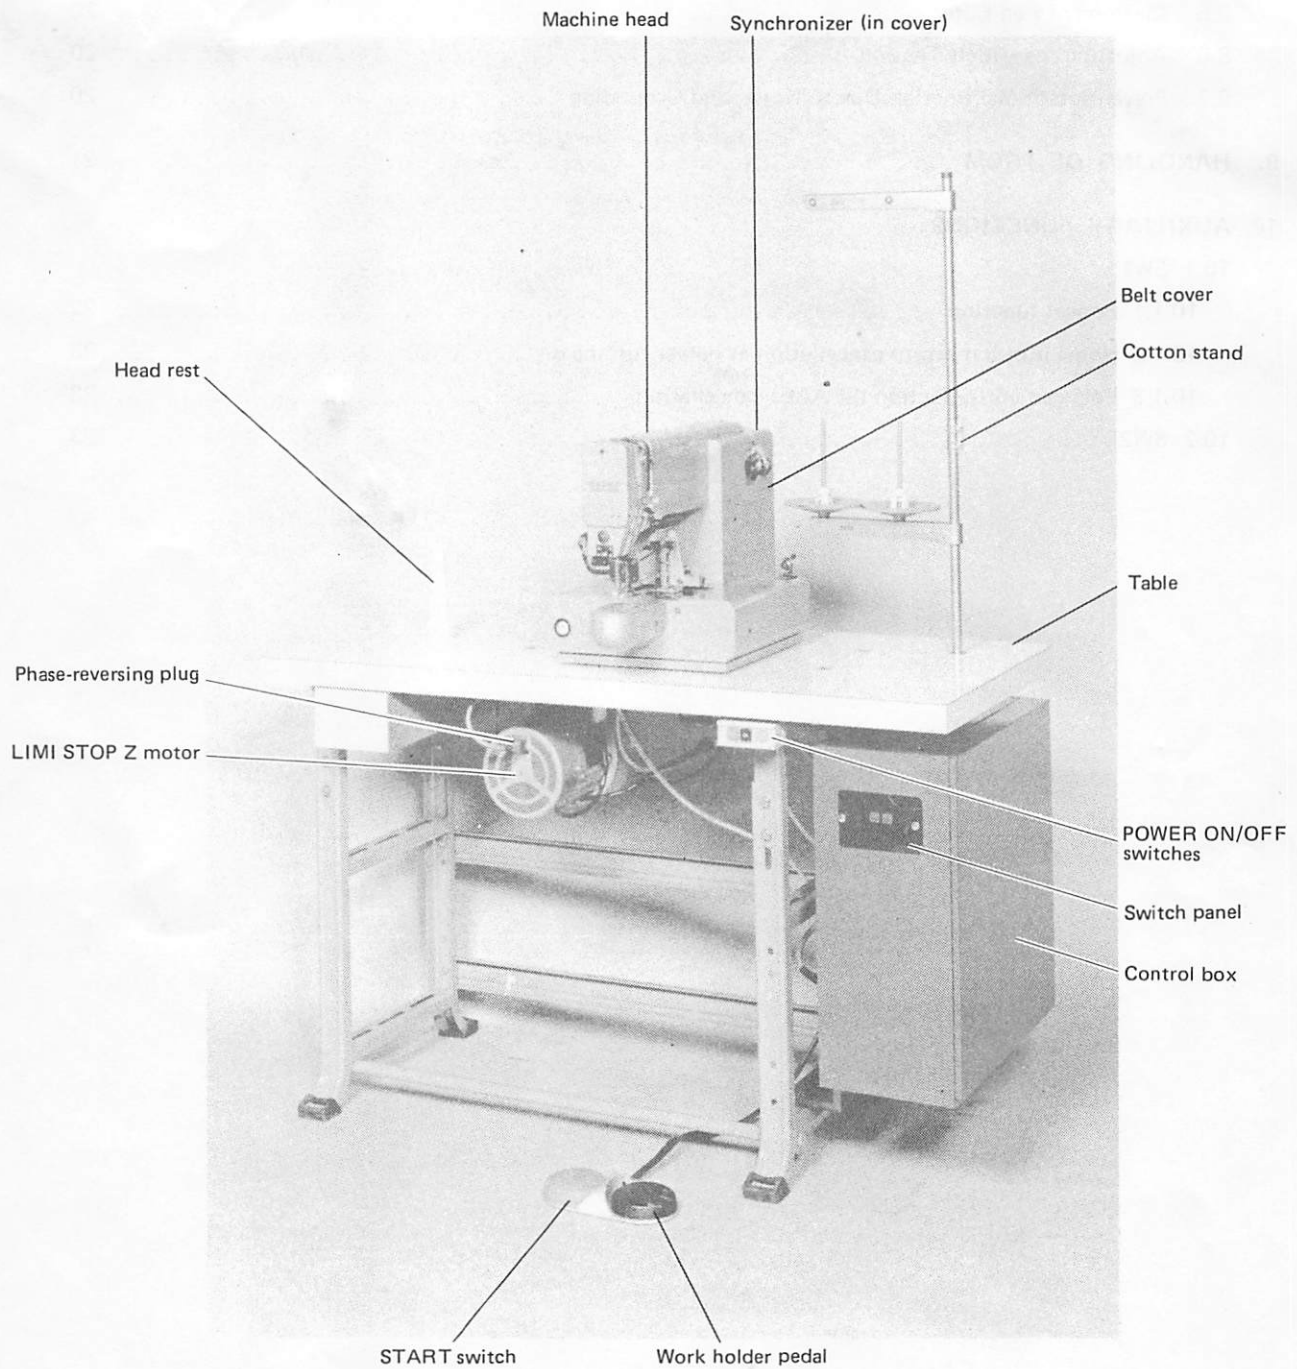

Fig. 1 Construction
- 3.1.1 Install the furnished head rest to the table. (See Fig. 1)